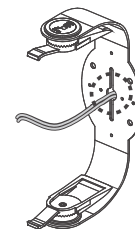

FIGURE 3:
1. In most cases you will be able to attach the FastMount brackets directly to the mounting surface. Run the speaker wires from the amplifier to the speaker locations and through the holes in the brackets and mounting bases, if used (see figure 3).